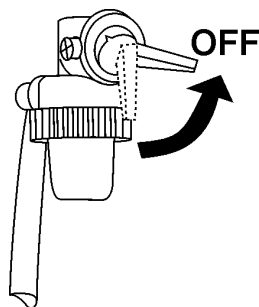

Figure 22. Engine Fuel Valve Lever (OFF)
5. Place the engine fuel valve lever (Figure 22) in the **OFF** position.